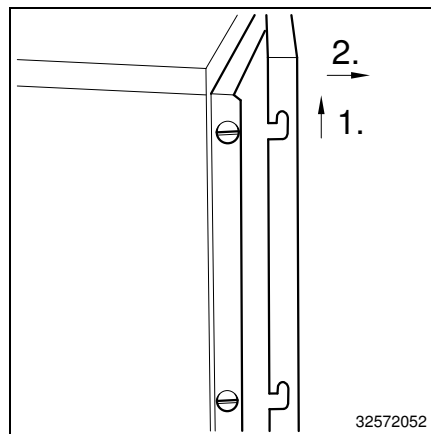

Fig. 36 Front cover
- Raise the front cover up to the stop (Fig. 36/1).
- Pull the front cover off to the front (Fig. 36/2).